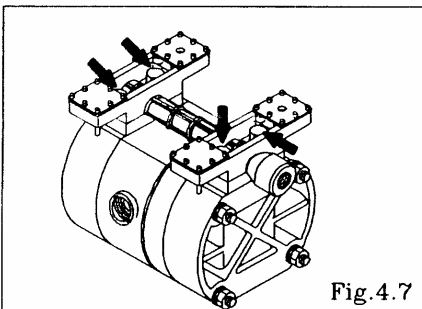

Fig.4.7
- Turn over the main body assembly. [Fig.4.7]
- Remove the 4 retainer bolts from the in manifold, and remove the base and in manifold. (NDP-15) [Fig.4.7]